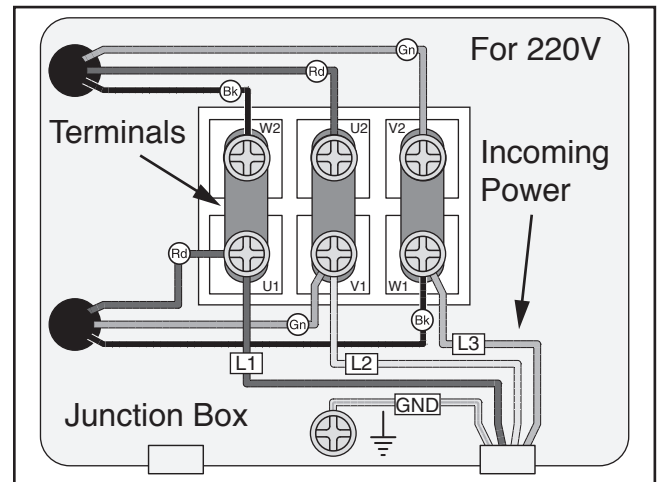

Figure 42. Vacuum pump junction box connection in delta configuration for 220V.
During next step, make sure incoming ground wire is connected to correct terminal to ensure machine will be properly grounded (see "GND" in Figure 42). An ungrounded or improperly grounded machine can cause electrocution if live electrical wires make contact with frame or other parts touched by operator.
5. Connect incoming power wires to terminals, as shown in Figure 42.
— If air is moving in wrong direction, stop machine and DISCONNECT FROM POWER! Phase of incoming power supply is reversed. Remove vacuum pump junction box cover and swap incoming power wires at U1 and V1 terminals (see **Figure 42** on **Page 29**), then re-install junction box cover and reconnect vacuum pump to power.